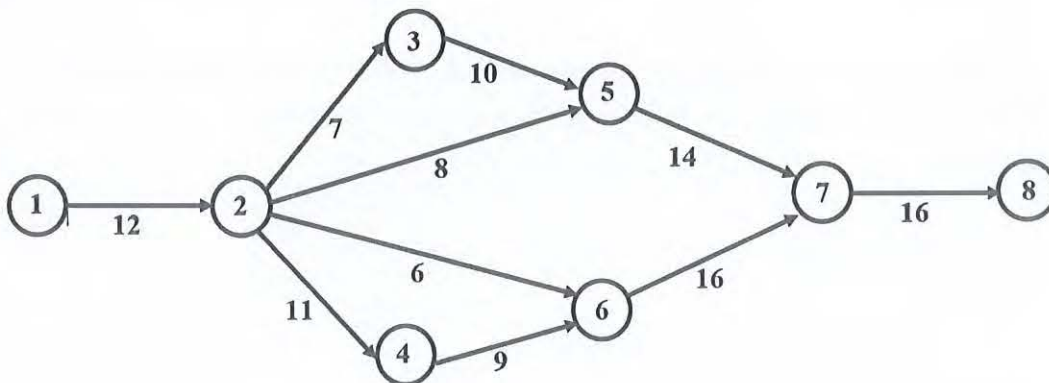

Figure 1
2. The network of a bridge construction project is shown in **Figure 1**, along with the duration of each activity. Apply network analysis technique to determine the Earliest and Latest Event Time of each activity. [20]
3. Apply CPM technique to the network shown in **Figure 1** to determine the followings: